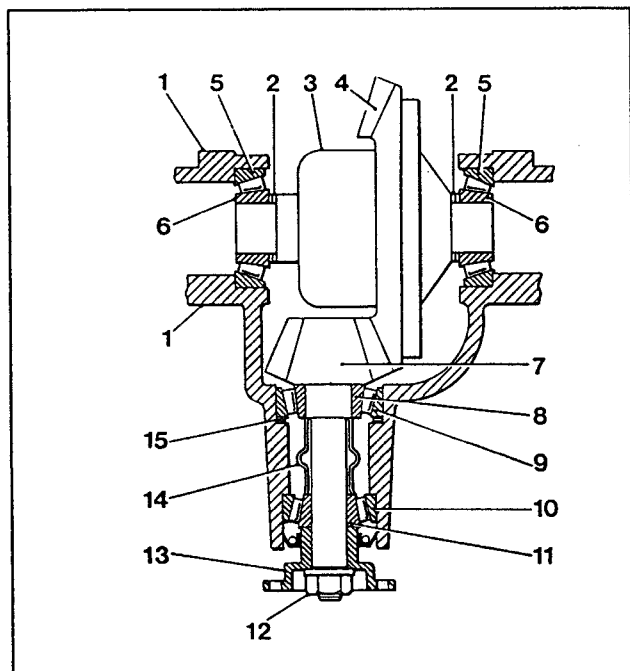

Fig 7. Differential housing layout
The performance, quietness and durability of an axle is dependent on accurate positioning of the pinion relative to the crown wheel and the preload on the pinion and differential case bearings. Fig. 7 shows the layout of the pinion and differential case components in detail.
Preloading of the pinion bearings is achieved by tightening the pinion flange nut (Fig. 7, item 12) until a precise running torque-to-turn figure is achieved. The bearings are positively located by a spacer (Fig. 7, item 14) which progressively collapses as the pinion flange nut is tightened.
Machining tolerances in manufacture affect the relative position of the pinion and crown wheel. The pinion height is adjustable to cater for the tolerances which can occur and this is achieved by shims placed under the pinion head bearing (Fig. 7, item 15).
To determine the nominal dimension of the shim pack, it is necessary to install a dummy pinion into the axle using the pinion bearings which will be used on final assembly, and to measure the height of the dummy pinion relative to a ground shaft located on the centre line of the differential case bearings (Fig. 7, item 6). The machining tolerances of the pinion are then added to (or subtracted from) the measured height determined by using the dummy pinion.
The service tools and bearings cones are then removed. The pinion head bearing cup is also removed so that it can be refitted with a shim pack of the dimension calculated sandwiched between the bearing cup and axle casing (Fig. 7 item 15). This will then ensure the pinion is fitted correctly relative to the crown wheel.
The differential case is supported between two bearings (Fig. 7, item 6) which must be correctly preloaded on assembly to prevent excessive bearing load and ensure the bearings cannot move under load. In addition, the crown wheel (fig. 7, item 4) must be positioned correctly relative to the pinion (fig. 7, item 7), with the correct amount of free 'play' or 'backlash' between the gears. This is achieved by means of shims under the differential bearing cones (Fig. 7, item 2).